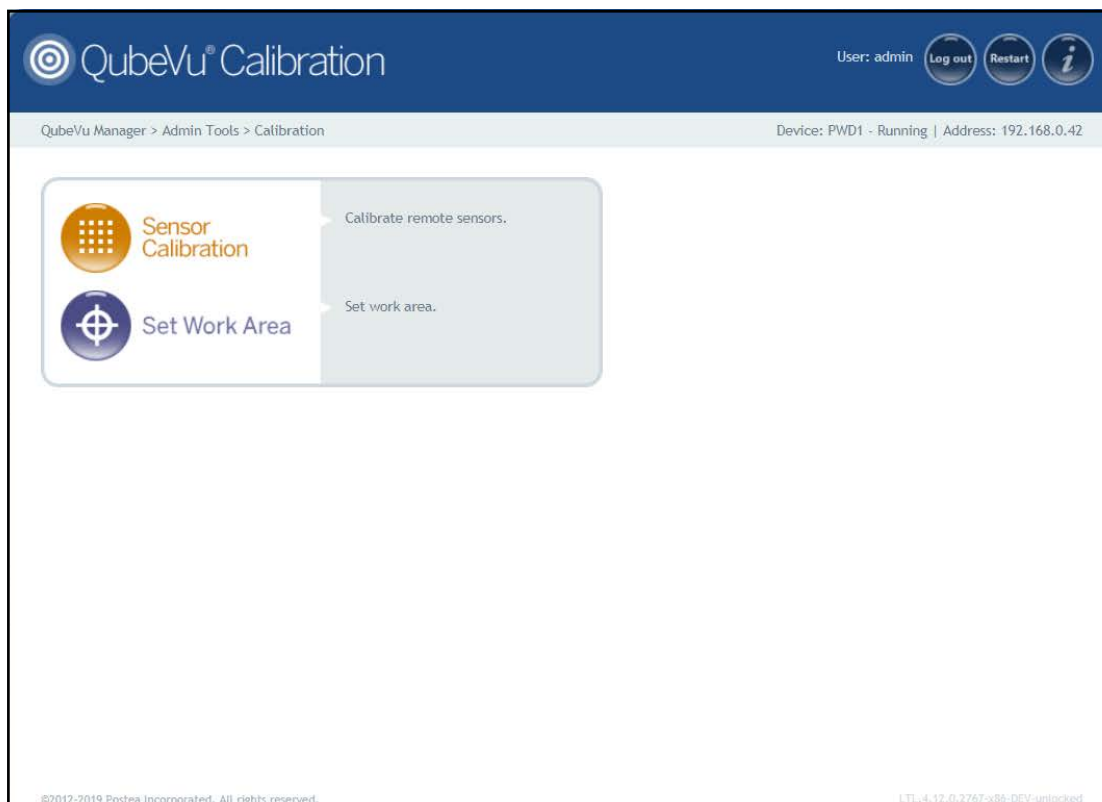

Figure 5-3. Calibration Menu
1. Press  **Sensor Calibration** from the **Calibration** menu (Figure 5-3 on page 21) to enter the **Remote Sensors Calibration** menu.
1. Press  **Set Work Area** from the **Calibration** menu (Figure 5-3 on page 21) to enter the **Set Work Area** menu.